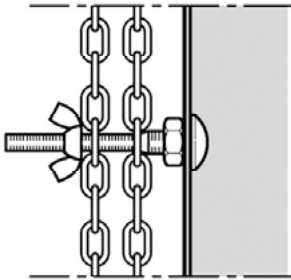

Figure 8
- In order to avoid catching the manual control chain when the door is moving, and to avoid impeding the movement of people and equipment, the lower part of the chain should be fixed (fig. 8) at a height of ~1.5 m.